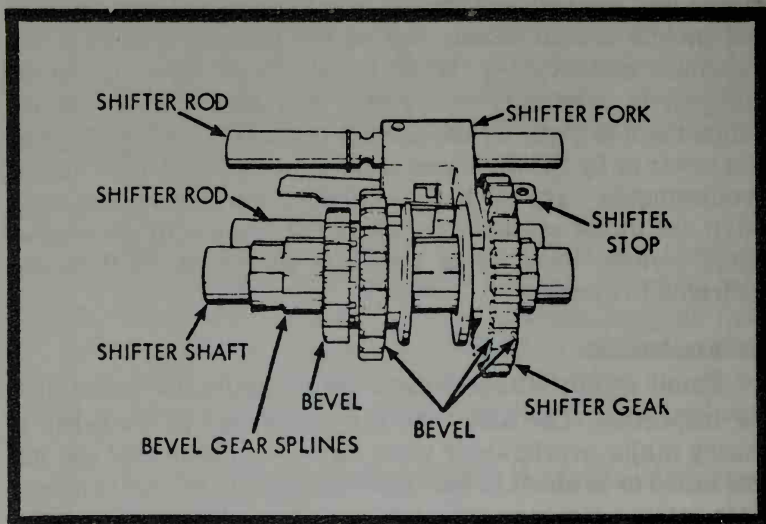
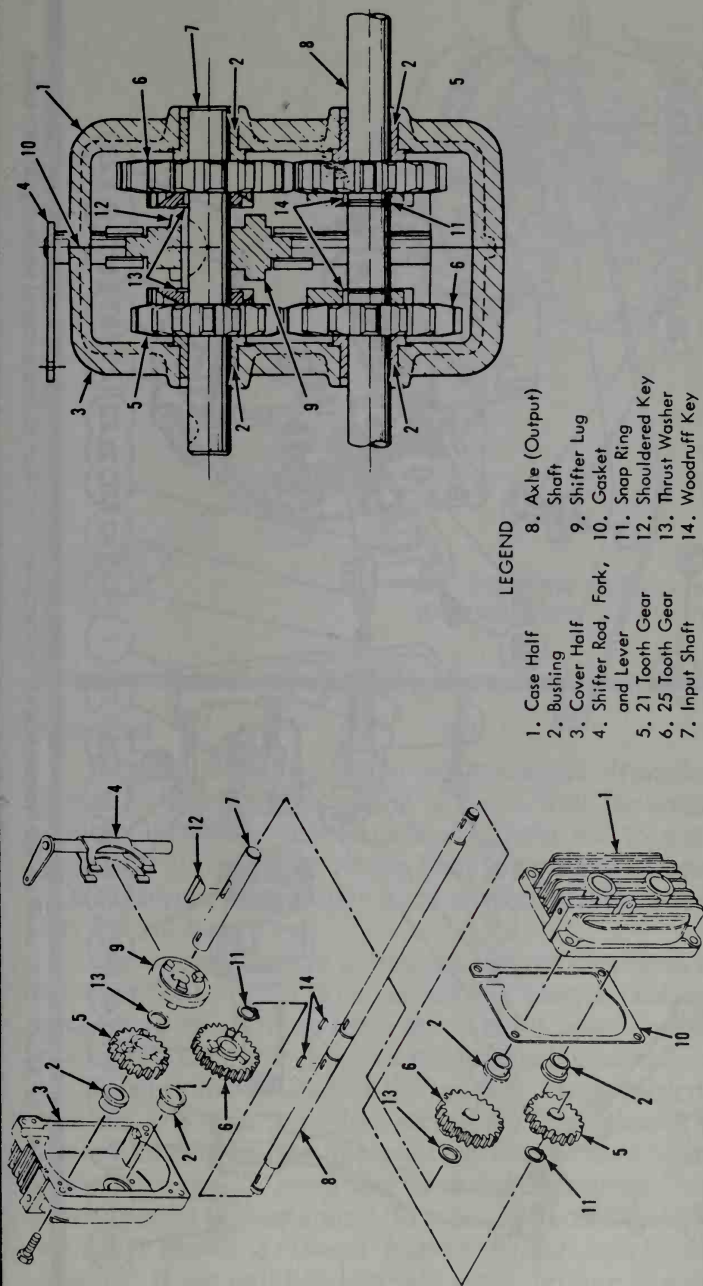
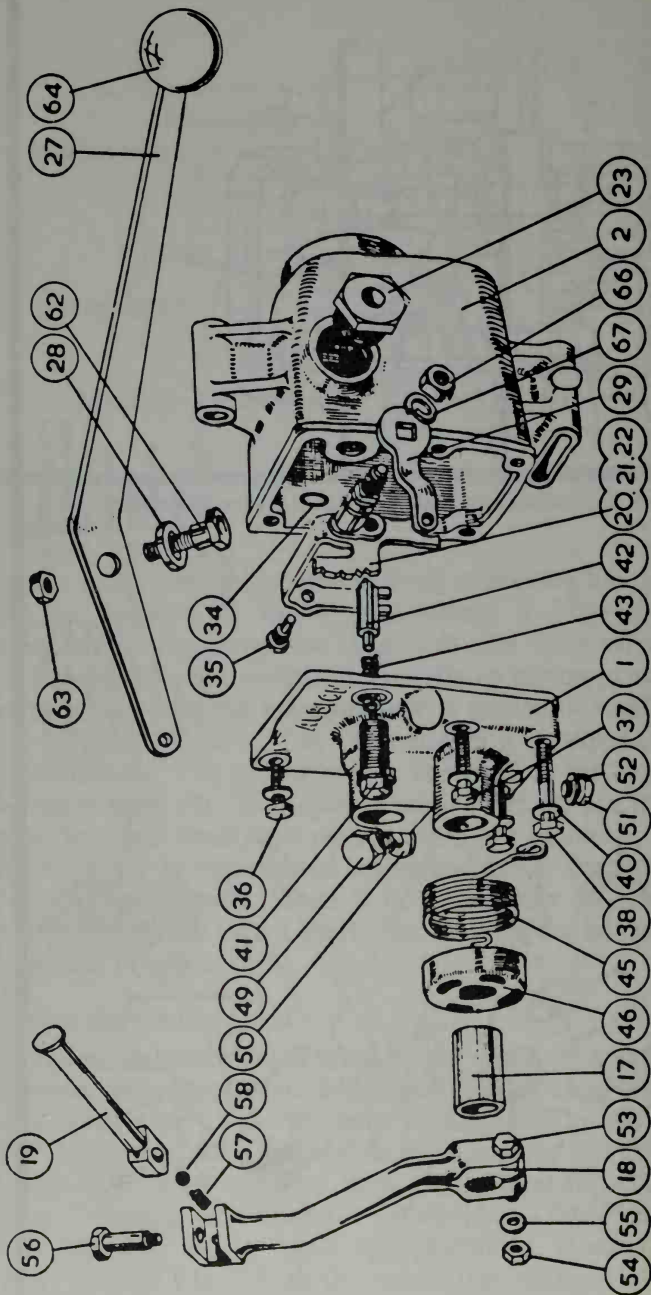
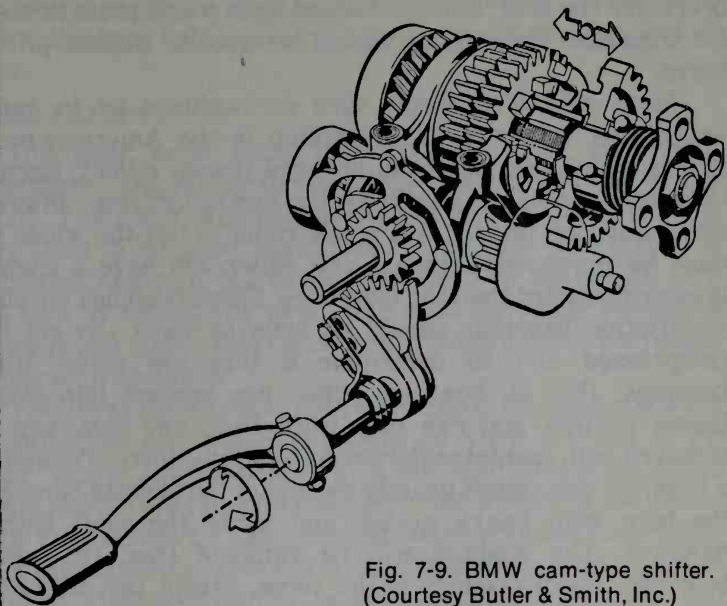

Fig. 7-6. The shifter mechanism for the Peerless transmission in the previous illustration.
Fig. 7-7. A Peerless constant-mesh, two-speed transmission. More complex four-, five-, and six-speed units operate on the same principle.
Fig. 7-8. The Albion box, used on the Rokon Mark 3 motorcycle, is similar to those found on many British bikes.
Fig. 7-9. BMW cam-type shifter.
along the shaft. One side of the shifting gears and the driven gears are beveled to make engagement a little easier. Constant-mesh transmissions (Fig. 7-6) are used on some riding lawnmowers and almost universally on motorcycles. All gears turn, but only the engaged gear is pinned to rotate the output sprocket. Figure 7-7 is a drawing of a Peerless Series 200 transmission. The shifter lug (9) is pinned by the key (12) to the input shaft (7). The input gears (5) and (6) are free to spin on the input shaft; the output gears are pinned to their shaft. No power is transmitted unless the shifter lug engages one of the input gears. When it does the gear in question rotates and turns the output shaft. The Albion speed box in Fig. 7-8 is similar in operation.
Before a transmission is taken apart, check the clutch for full release and engagement. Remove all linkages and attempt to shift the box by hand. Often the problem can be cured by simple adjustment. It is impossible to be specific in a book of this type, but worn detents, bent cams, loose or sheared pins—in short, any waste motion in the shifter mechanism—can cause what appears to be transmission failure. Refer to Fig. 7-8 for the detent type shifters used on English bikes, and to Fig. 7-9 for the BMW variety of cam shifts.
Many English and European types work by means of a ratchet which rides on the inner face of a gear. The sear is softer than the gear teeth and wears first. Regrinding or attempts to build up the sear with welding are usually a waste of time. The sear must be replaced (which can mean a long wait on some of the older bikes). Most American and Japanese designers prefer a sector (Fig. 7-8). The first tooth gets most of the wear and often the starter can be repaired by simply grinding that tooth off. But most kickstarter problems are really in the clutch—the numerically high gear ratio of the starter mechanism will accentuate clutch slippage.